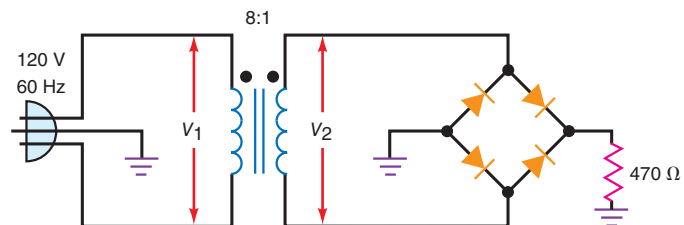

Figure 30-27
30.7 In Fig. 30-27, what is the peak output voltage if the diodes are ideal? The average value? The dc value? Sketch the output waveform.
30.8 If the line voltage in Fig. 30-27 varies from 105 to 125 V rms, what is the minimum dc output voltage? The maximum?